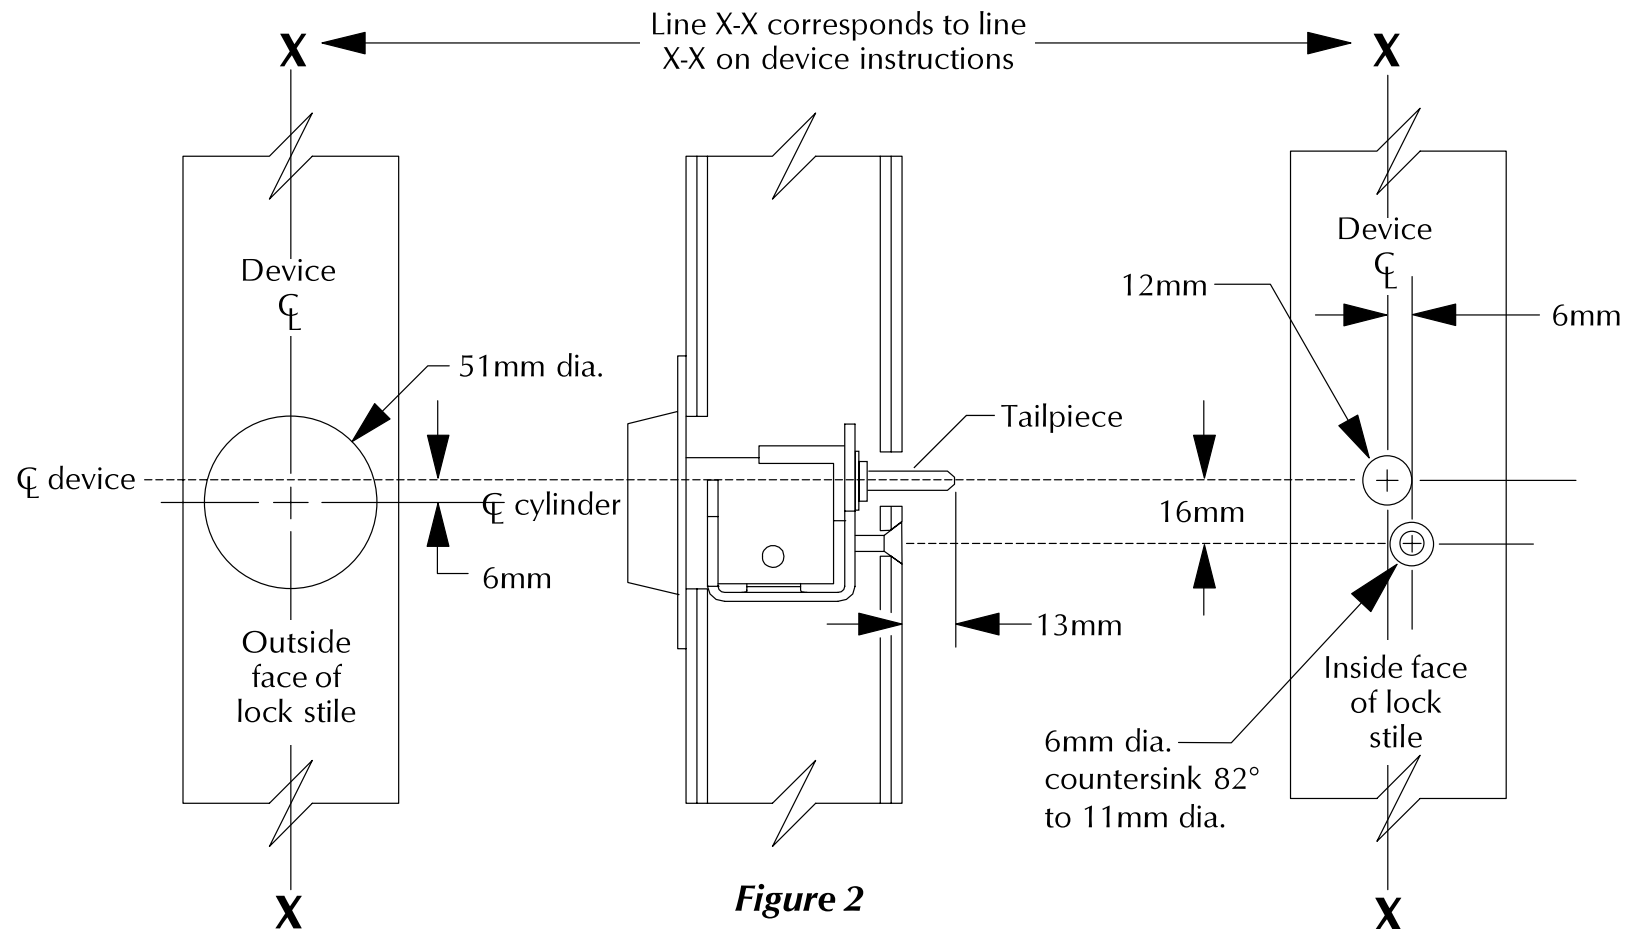

Figure 2
- A. Cut cylinder tailpiece to proper length (Figure 2) and install cylinder.